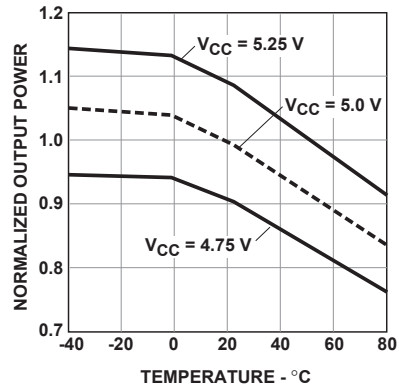

Figure 4. Typical normalized optical power vs. temperature (in recommended drive circuit)
3. Minimum and maximum values for  $P_T$  over temperature are based on a fixed drive current. The recommended drive circuit has temperature compensation which reduces the variation in  $P_T$  over temperature; refer to Figures 4 and 6.